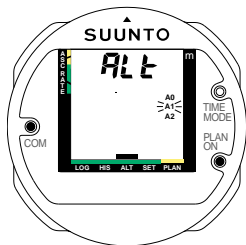

Fig. 4.8 PERSONAL/ALTITUDE ADJUSTMENT SETTING, STEP 2
2. Connect the PLAN/ON and COM contacts until all three personal/ altitude adjustment modes appear. Release your fingers immediately at this point. The current mode is now blinking (Fig. 4.8). Wait at least two seconds but not more than four seconds before the next step.